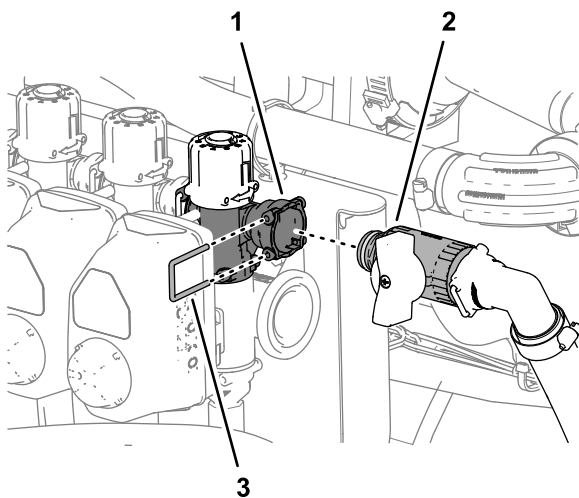

Figure 113
- Assemble the quick-disconnect fitting of the bypass-shutoff valve with the quick disconnect fitting (socket) of the bypass valve (Figure 113).
2. Secure the quick disconnect fittings for the bypass-shutoff valve and the bypass valve with the retainer (Figure 113) that you removed in step 3 of Positioning the Bypass Valves—Machines without the Optional Hand Spray Wand Kit or the Optional Electric Hose Reel Kit (page 33).